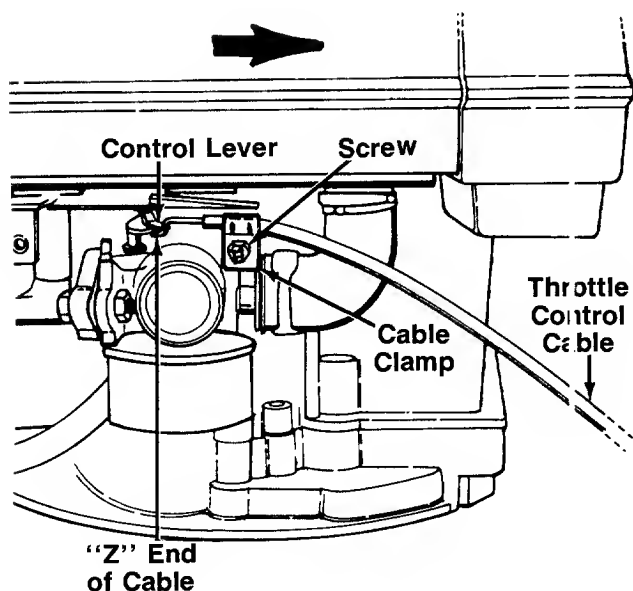

FIGURE 5B.—Model 478B
2. The throttle control cable is attached to the upper handle. Route the throttle control cable under the lower handle and inside the handle mounting bracket. Hook the "Z" end of the throttle control cable into the control lever on the engine as shown in figure 5B.
3. Loosen (do not remove) the screw on the cable clamp shown in figure 5B. Slip the control casing under the clamp (cable must move freely beneath the clamp).